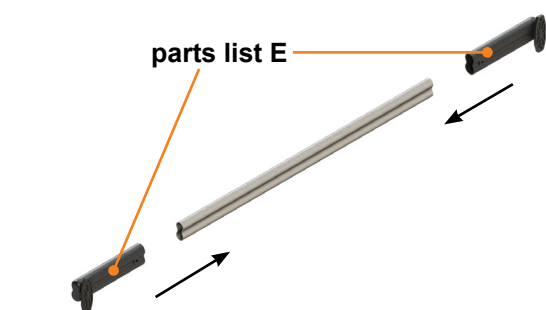

Fig.19
**NOTE:** Be sure to install two Parts List E sleeves (Fig.19). See the Mounting Options section on page 3 (Fig. 4).
2. Slide the sleeves over the ends of the push bar (Fig. 19)